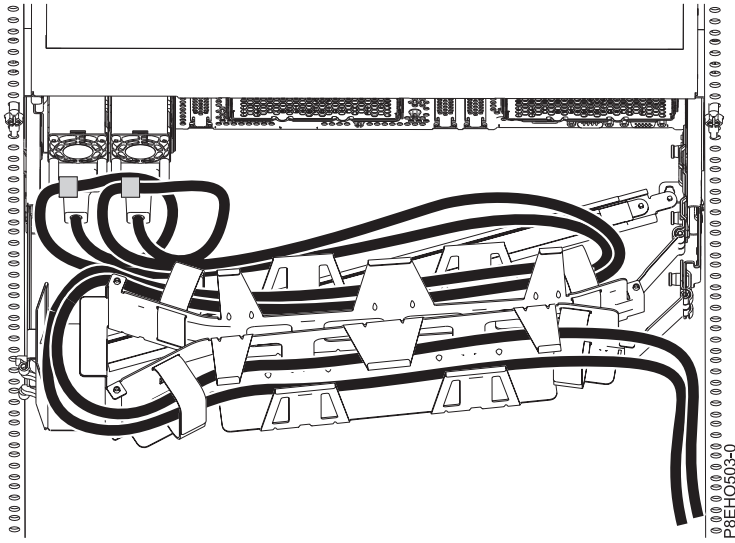
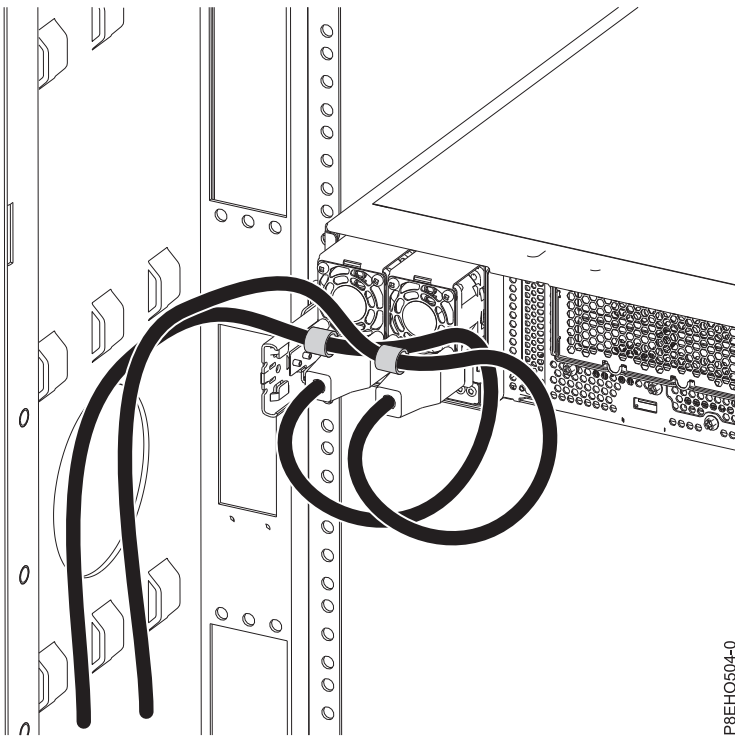

Figure 51. Power cord loop with cable management arm routing. The power cord loops counterclockwise to the right.
Figure 52. Power cord loop with sidewall routing. The power cord loops counterclockwise to the left.
3. Loop and attach the power cords to the power supply handle. Note how the power is looped; be sure to maintain at least a 5 cm (2 in.) diameter loop. You use two types of loops, detailed in Figure 51 on page 70 and Figure 52 on page 70. Use the hook-and-loop fastener to tie the power cord to the power supply handle.